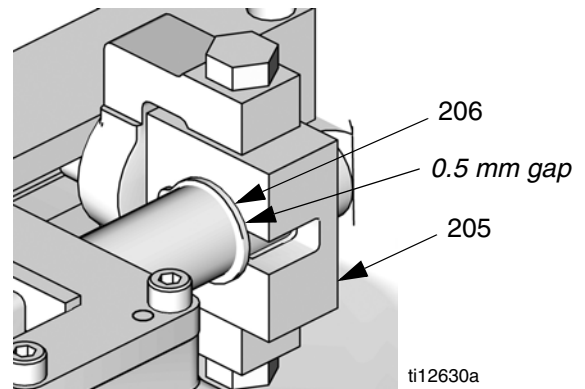

FIG. 29: Ratio Beam Snap Ring
- l. Loosen the hex head cap screws (204) on the ratio adjustment pivot.
- m. Turn the ratio adjustment knob (201) clockwise to increase the ratio and counterclockwise to decrease the ratio until the mechanical ratio arm is set to the desired setting (**1.19 in the example**).
- n. Tighten the hex head cap screws (204) on the ratio adjustment pivot.
- o. Slide the ratio beam guide (205) so there is approximately a 0.5 mm gap between the ratio beam guide (205) and the snap ring (206) shown in FIG. 29.